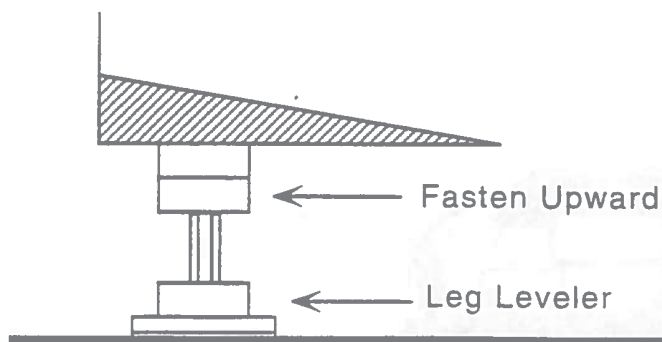

FIGURE 2: Side View, Leg Levelers
3. After adjustments are complete, fasten the leg leveler nut upward and secure the height of the leg leveler. (See Fig. 2.)